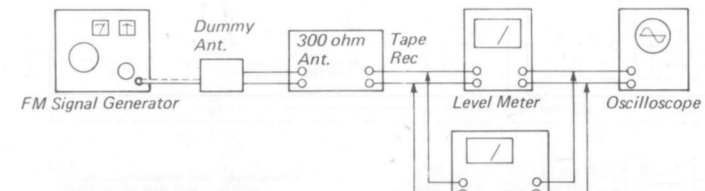

Fig. 5 FM Tuner Test Setup
- Connect the test equipment to the tuner as shown in Fig. 5.
Use the same test setup shown in Fig. 5 except connection of modulation signal generator, using MPX stereo modulator.